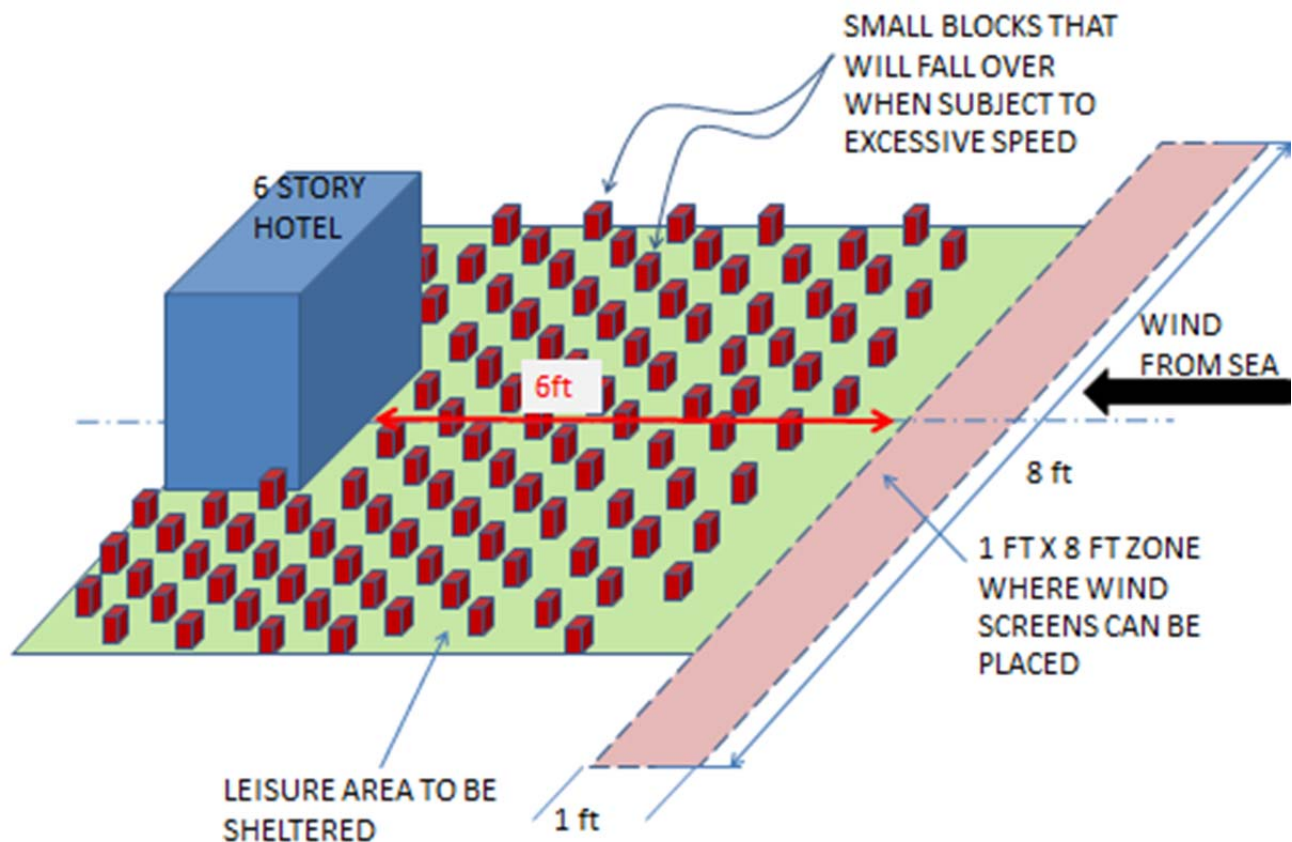

Figure1. Scale model of beachfront hotel with area for wind mitigation.
- 1.1 The objective for the 2015 WOW Challenge is to design a wind mitigation barrier that will provide the best wind mitigation for a Miami Beach hotel property. Imagine a six-story hotel situated along the beach, and between the hotel and the beach is an area that hotel management wants to be protected from wind off the Atlantic Ocean. Theoretically, this area could include a pool and or restaurant seating area. Figure 1 illustrates the Challenge scaled down by about a factor of 25.
- 2.2 The wind mitigation barrier can be no more than 9 inches high and multiple barriers (e.g. one behind the other or overlapping) are permitted just so long as they remain within the 1 ft. by 8 ft. area shown in Figure 1. The wind mitigation barriers can be straight or curved, porous or solid.